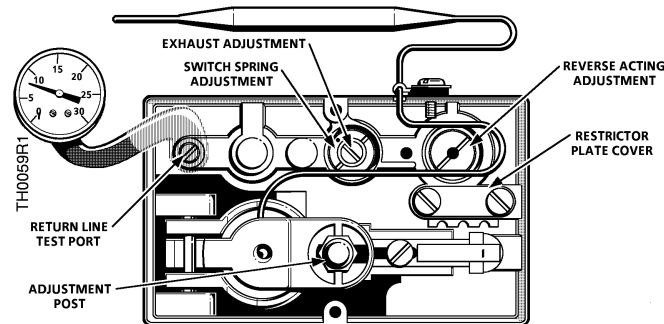

Figure 4. Heating/Cooling Changeover.
2. Remove knob and cover from thermostat, as shown in *Figure 4*.
The changeover is a factory adjustment; it is sealed with thread locker and does not require field adjustment. If for some reason this adjustment is disturbed, re-adjust as follows: (See *Figure 4*)